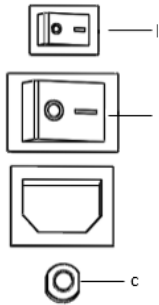

Figure 2
1. **POWER:** Applies power to the laminator and fan. The 'ON' position is indicated by the 'I' symbol. The 'OFF' position marked 'O' symbol (figure 2).